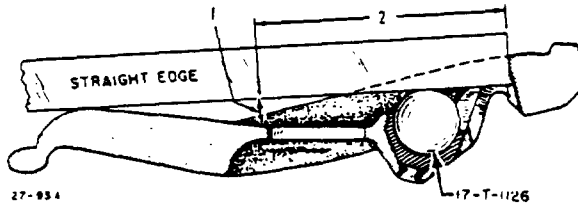

Figure 4-3. Checking Release Lever for Bend
4. Replace worn release levers, springs and ball seats. Check levers with a straight-edge and 11/16 inch ball (17-T-1126), see Figure 4-3, and if bent so that dimension (1) is more than 11/32 inch when measured at a point where distance (2) is 2-1/2 inch, replace the lever.